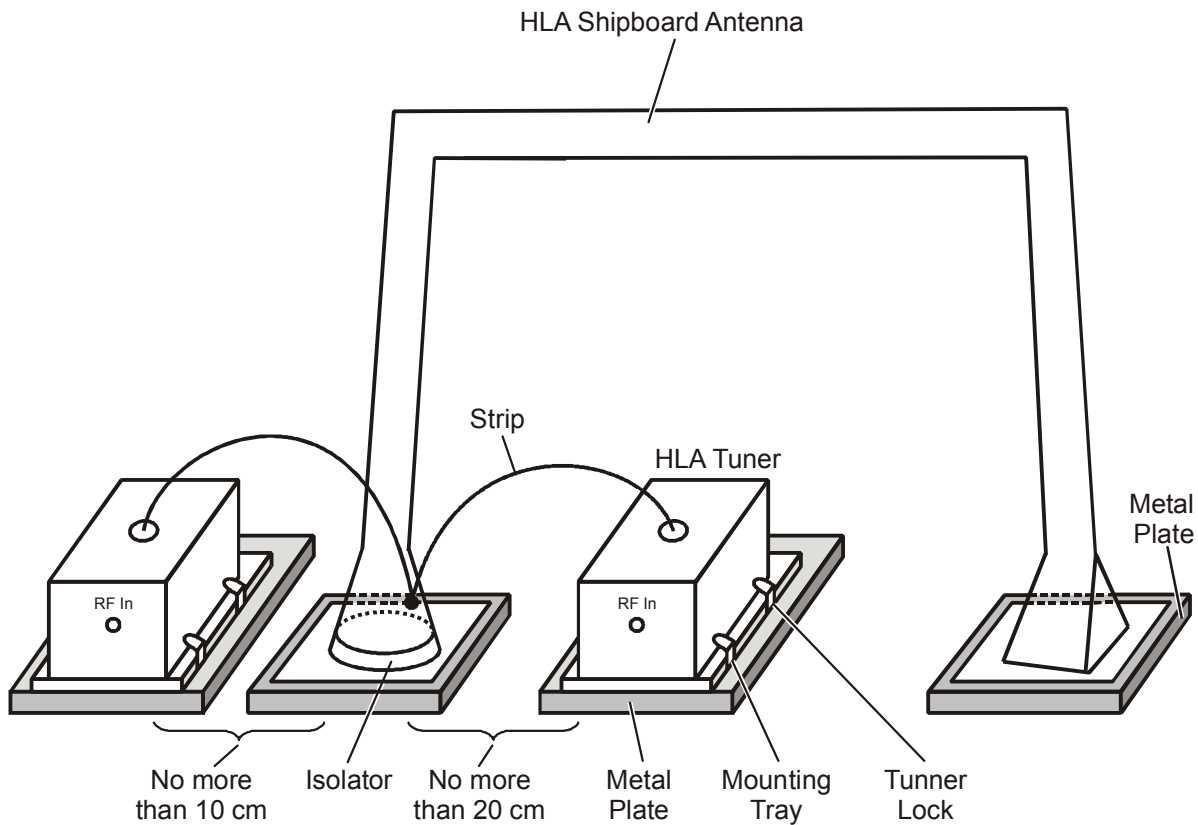

Figure 2-21. HLA Ship Antenna Installation
2.4.2.1 Preparation for Installation (See Figure 2-21)
- b. Verify that the distance between the mounting tray and the antenna mount does not exceed 20 cm or 10 cm according to the position of the mounting tray (see Figure 2-21).
- a. Connect RF cable connector (CG-2423) to RF connector on the HLA Tuner (see Figure 2-21).